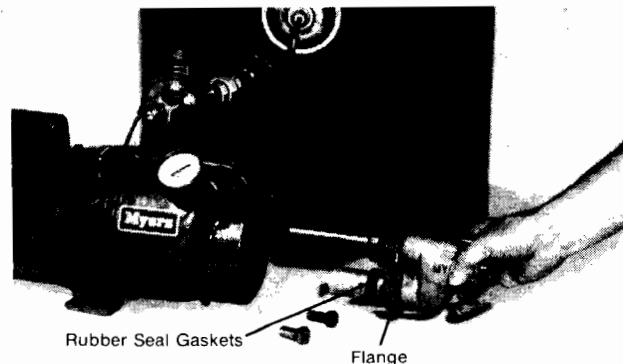

Figure 2
2. With shallow well package only, a 2 1/2" galvanized nipple, threaded one end, is supplied for connecting to ejector. Where a deep well package is used for shallow well service it will be necessary to make this nipple. If this nipple is wrench cut, file cuts smooth before installing rubber seal ring. (See Fig. 2). Use only EJECTOR PACKAGES WITH GREEN LABELS. Use only ejector packages specified for HC.